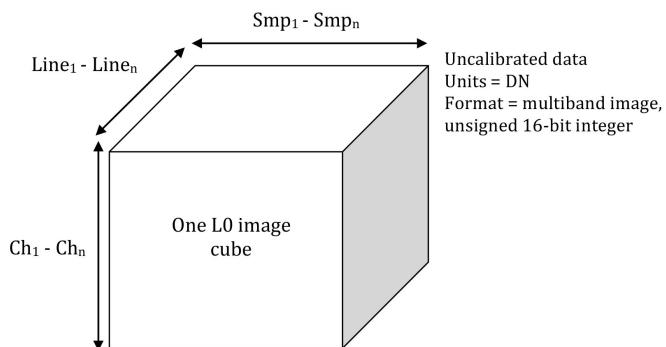

Figure 2-1. Illustration of an AVIRIS-NG Level 0 Spectral Radiance Image Cube
The Level 0 files record data captured directly from the instrument and position sensors. They are in the form of 16-bit unsigned integer “digital numbers” (DN) with 680 cross-track samples and 481 channels, recorded using the Band Interleaved by Line (BIL) convention. This is illustrated in Figure 2-1. These files are typically very large because they are oversampled in the along-track dimension. They also contain calibration segments at the beginning and end of the flightline, and embed Global Positioning System (GPS)/Inertial Measurement Unit(IMU) data as well as timestamps in each line of data. All of this embedded data is important for subsequent processing. In addition, GPS/IMU and synchronous timing information are stored separately in files suffixed *_gps and *_pps respectively. The average user will not need these data, but they serve as the input to the JPL processing pipeline so they are important to recover higher-level products.